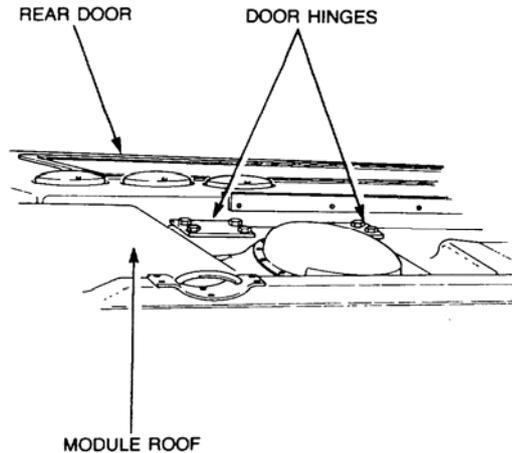

Figure 32 Rear Door Hinge Removal
- j. Remove the sixteen screws and lock washers securing the four hinges to the upper door opening (refer Figure 32).
- c. Install the sixteen screws and tighten them securely (refer Figure 32).